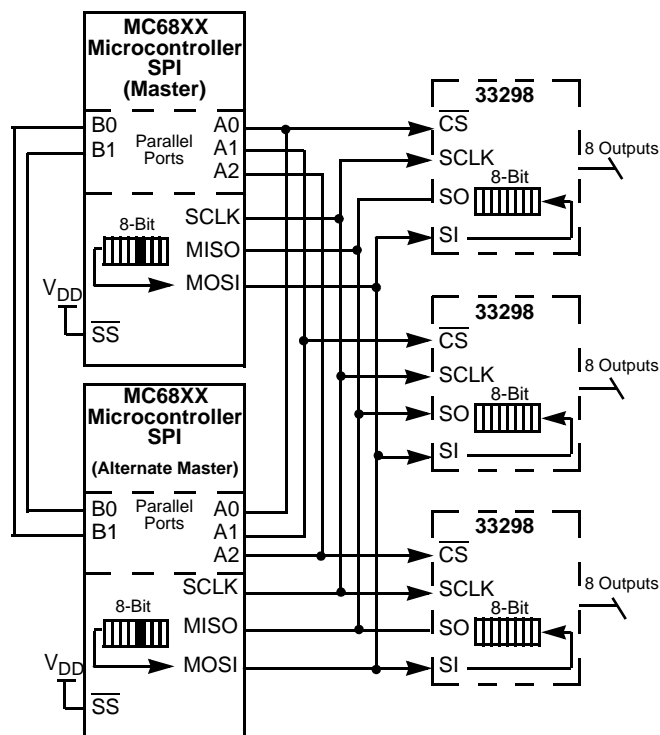

Figure 16. Multiple MCU SPI Control
any transition. For this reason, it is recommended, though not absolutely necessary, the SCLK pin be kept in a low logic state as long as the device is not accessed ( $\overline{CS}$  in logic high state). When  $\overline{CS}$  is in a logic high state, signals at the SCLK and SI pins are ignored and SO is tri-stated (high impedance). See the Data Transfer Timing diagram in Figure 16.
The serial output (SO) pin is the *tri-stateable* output from the Shift register. The SO pin remains in a high impedance state until the  $\overline{CS}$  pin goes to a logic low state. The SO data reports the drain status, either high or low relative to the previous command word. The SO pin changes state on the rising edge of SCLK and reads out on the falling edge of SCLK. When an output is OFF and not faulted, the corresponding SO data-bit is a high state. When an output is ON, and there is no fault, the corresponding data-bit on the SO pin will be a low logic state. The SI/SO shifting of data follows a first-in-first-out (FIFO) protocol with both input and output words transferring the MSB first. Referring to Figure 16, the DO bit is the MSB corresponding to Output 7 relative to the previous command word. The SO pin is not affected by the status of the Reset pin.
The MCU can perform a parity check of the fault logic operation by comparing the command 8-bit word to the status 8-bit word. Assume after system reset, the MCU first sends an 8-bit command word to the 33298. This word is called Command Word 1. Each output to be turned ON will have its corresponding data bit low. Refer to the data transfer timing illustration in Figure 16.
As Command Word 1 is being written into the Shift register of the 33298, a status word is being simultaneously written and received by the MCU. However, the word being received by the MCU is the status of the previous write word to the 33298, Status Word 0. If the command word of the MCU is written a second time (Command Word 2 = Command Word 1), the word received by the MCU, Status Word 2, is the status of Command Word 1. The timing diagram illustrated in Figure 16 depicts this operation. Status Word 2 is then compared with Command Word 1. The MCU will Exclusive OR Status Word 2 with Command Word 1 to determine if the two words are identical. If the two words are identical, faults do not exist. The timing between the two write words must be greater than 100  $\mu$ s to receive proper drain status. The system data bus integrity may be tested by writing two like words to the 33298 within a few microseconds of each other.